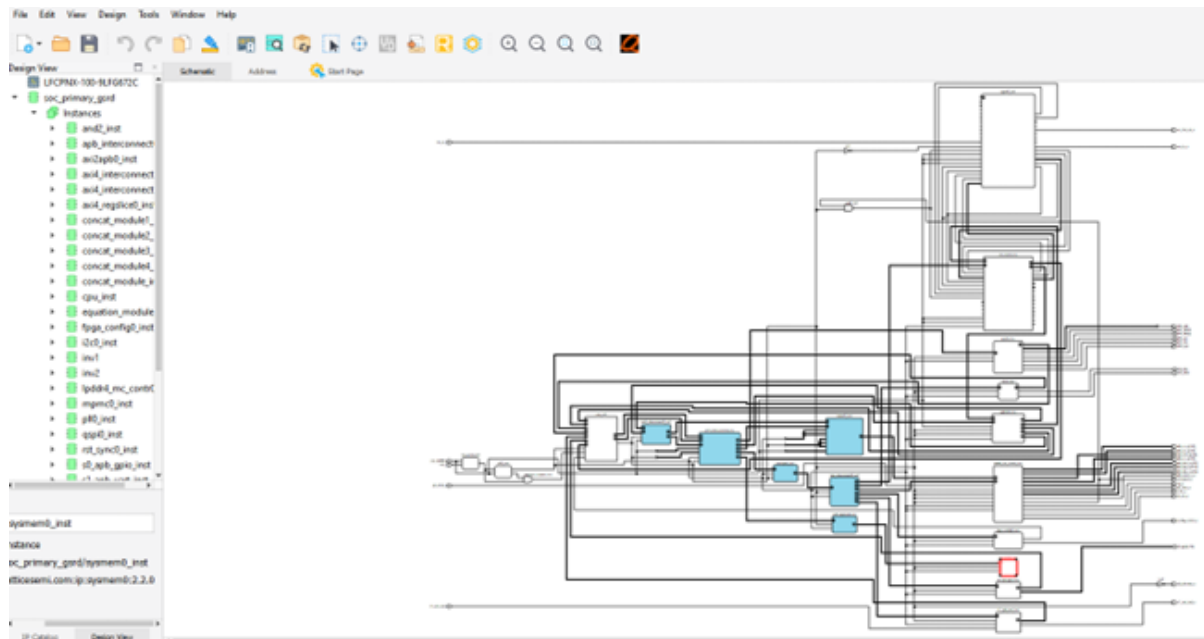

Figure 8.41. System Memory Highlighted
4. Select the **System Memory** Instance from the Design View in the left column and it highlights the *sysmem0_inst* as shown in Figure 8.41.